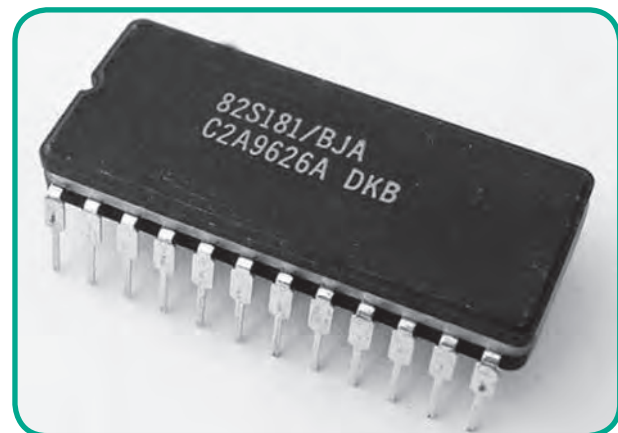

Figure 6.24 Integrated Circuit (IC)
- ii. The size of an IC is extremely small. In fact, ICs are so small that it normally need a microscope to see the connections between the components. Figure 6.24 shows a typical semiconductor chip.